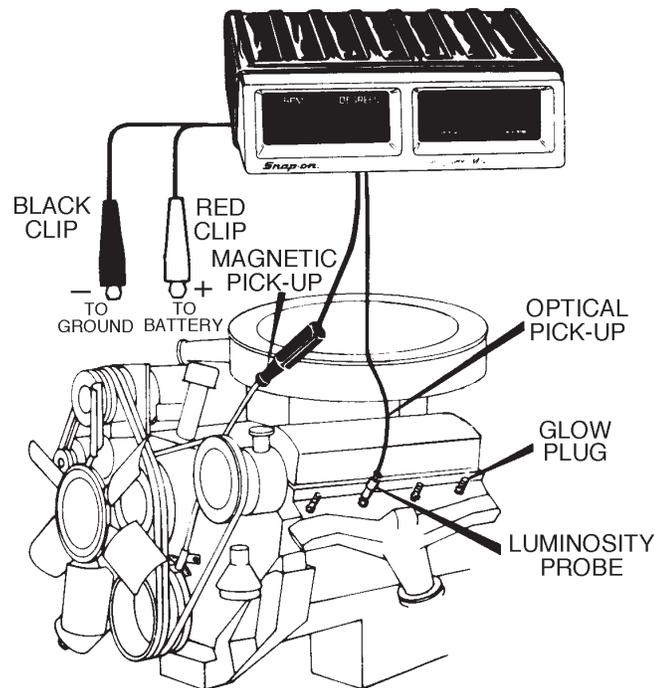

Figure 4-9. Hookup
f. Hookup Procedures and Testing Tips (Figure 4-9)